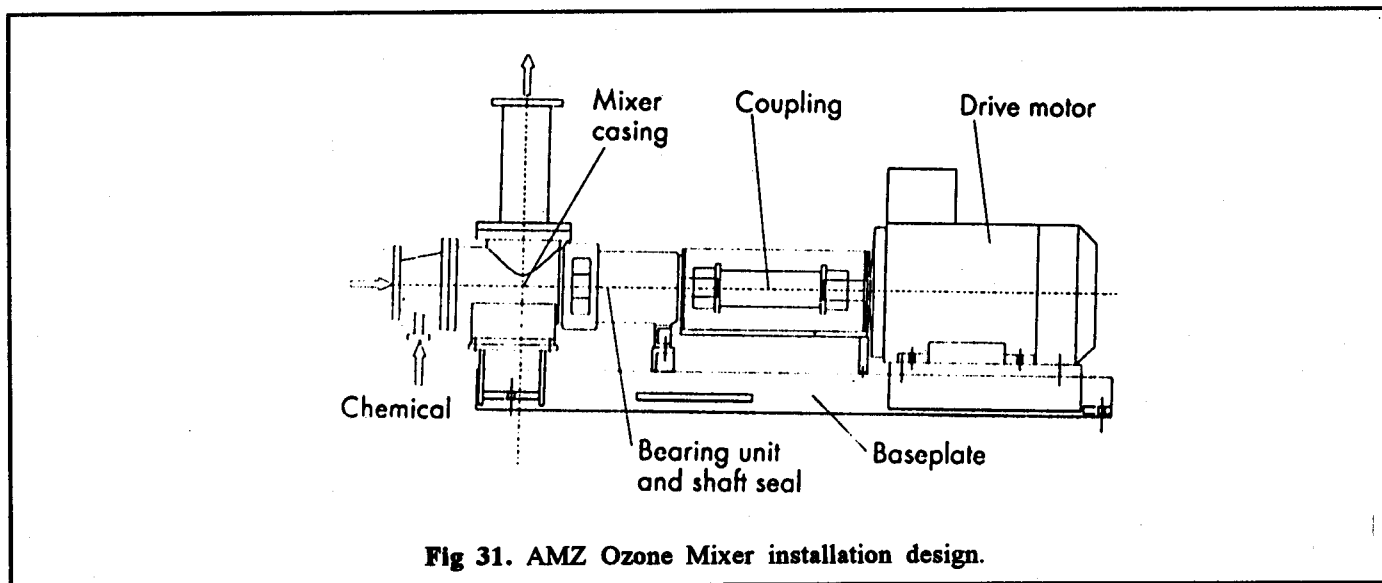

Fig 31. AMZ Ozone Mixer installation design.
The design of the AMZ Mixer is shown in Fig.31.
- Fig.31. **AMZ Ozone Mixer installation design.**